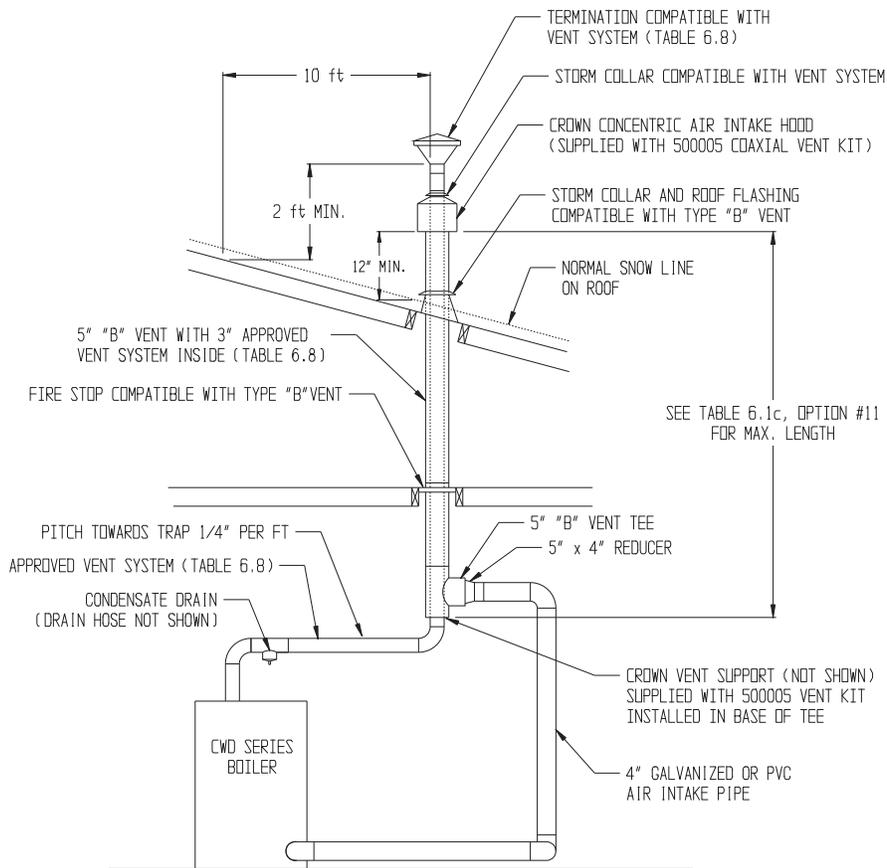

FIGURE 6.6: VERTICAL COAXIAL DIRECT VENT USING CROWN #50005 VENT KIT (VENT OPTION 11)
- 7) Permitted terminals for Vertical Coaxial Venting (Options 11 - 13) - When the Crown vertical coaxial vent kit is used (Vent Option 11), a cap compatible with the vent system is used (Figure 6.6, Table 6.8). The concentric air intake hood supplied in the Crown kit is the air inlet terminal (Figure 6.6).